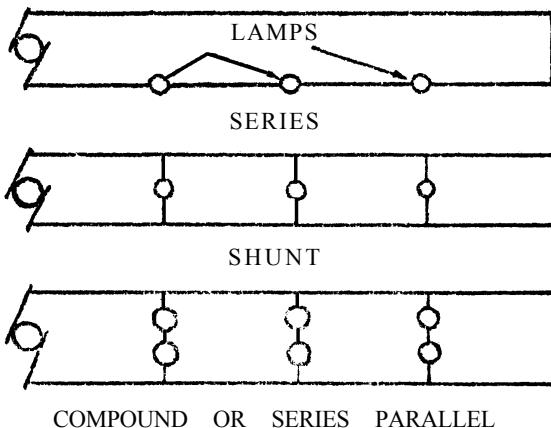

Fig. 1. Circuits
Electric circuits. — In order to use electric currents for transmitting power they must be sent through insulated conductors arranged to form complete paths. That is, the conductor must start at the generator, go to the motor, through it and return to the generator. If there is a break in the path, current will not flow. These paths are called electric circuits. Circuits may be series, shunt or compound. (For example, see diagrams shown in Figure 1.)
V. Look at Fig. 1 and describe three kinds of electric circuits.